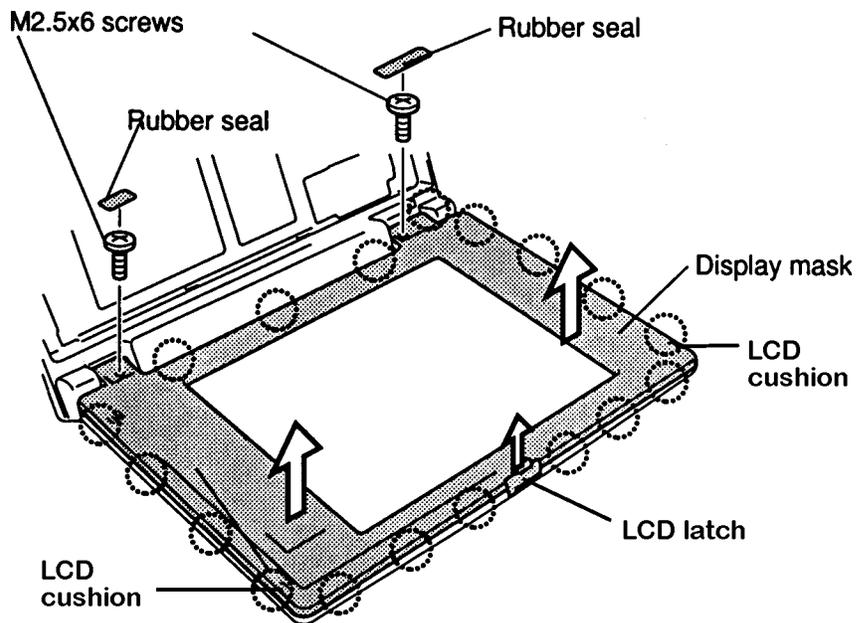

Figure 4-21 Removing the display mask
To remove the display mask, follow the steps below and refer to Figure 4-21.
To install the display mask, follow the steps below and refer to Figure 4-21.
2. Set the **display mask** in place and secure the latches beginning with the display support (Figure 4-21).